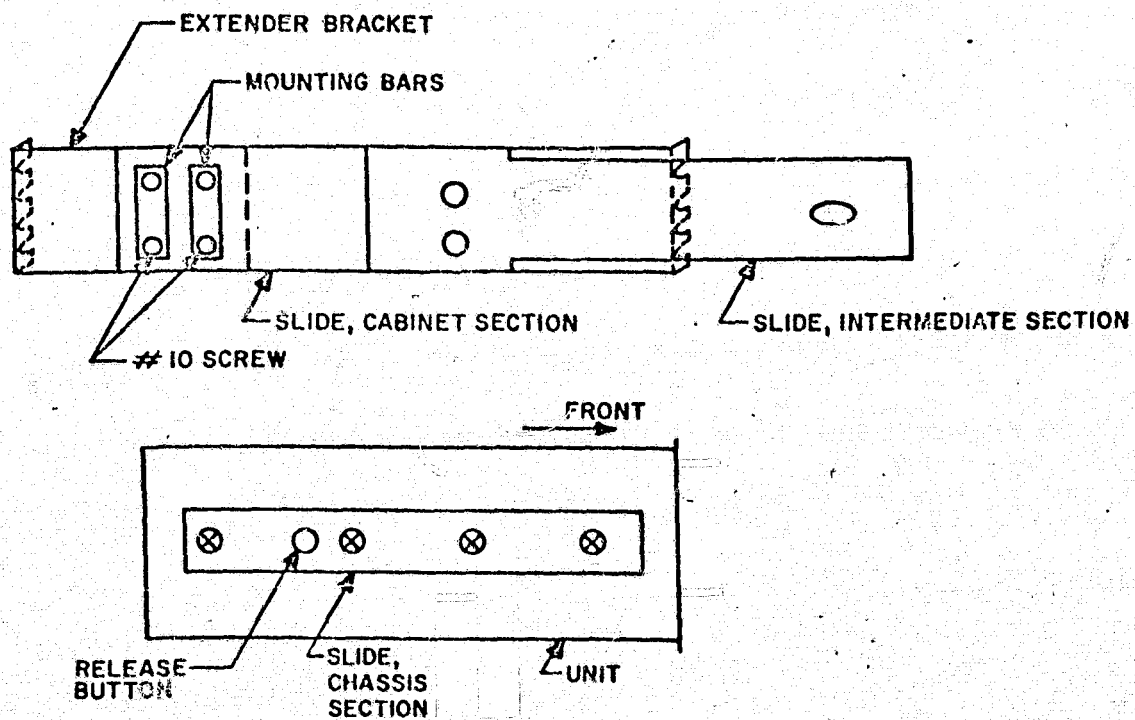

Figure 2-2. Slide, Mounting
1. The unit is shipped with the chassis section of the slides mounted on the sides of the unit as shown in Figure 2-2.
2. Assemble extender bracket to slide (cabinet section) as shown in Figure 2-2, using #10 screw and two bars supplied.